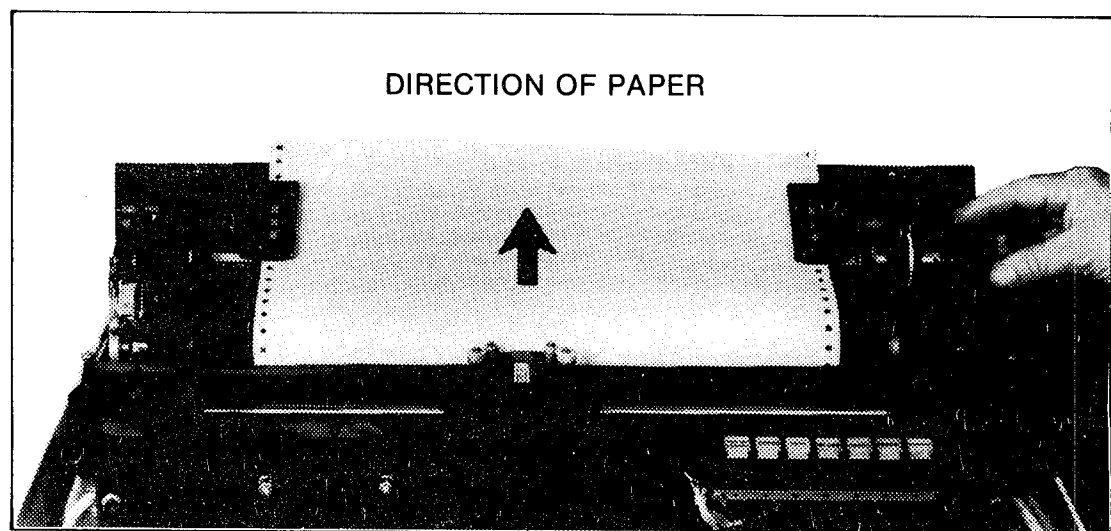

Figure 9. Forms Adjustment Knob
- Turn forms adjustment knob located at right of printer (Figure 9) forward or backward until print head is positioned on line desired at top of page.